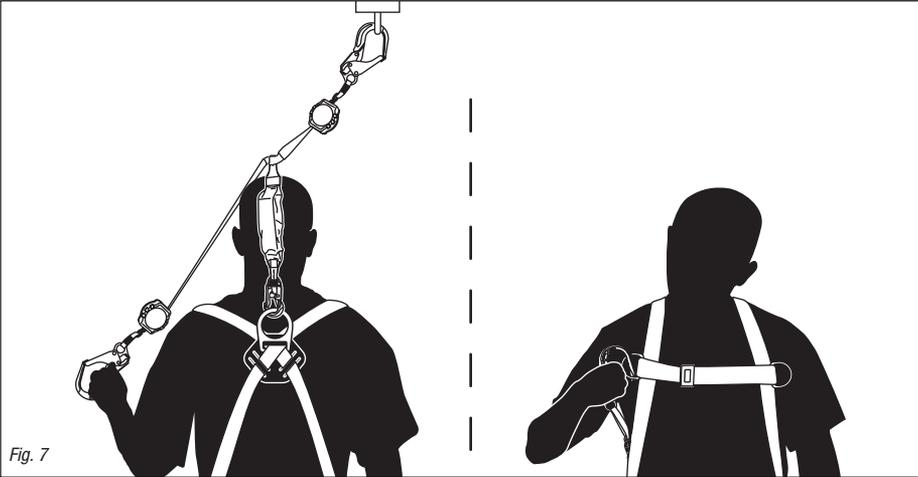

Fig. 7
- Do not attach the second arm from the TracBloc 2 twin self-retracting lanyard at any location unless a specially designed lanyard retainer is provided for this purpose (*Figure 7*).